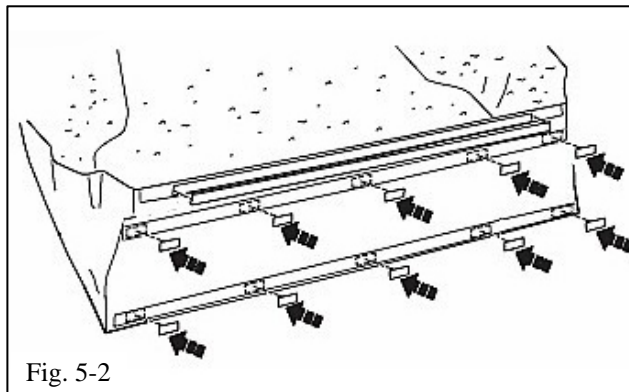

Fig. 5-2
- (b) Attach 1" X 60" and 1" X 2" hooks to the BedRug bulkhead area facing the front as shown. Trim excess from 1" X 60" strip where necessary (Fig. 5-2).